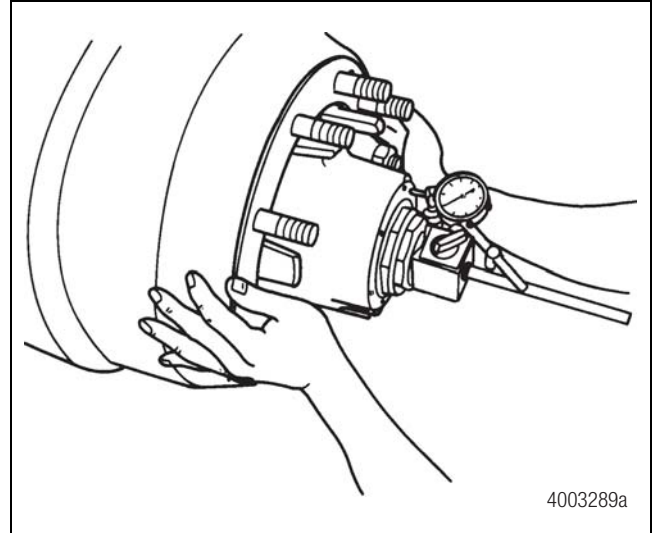

Figure 10.8
- B. Slightly rotate the wheel end in both directions while pushing inward until the dial indicator does not change. Set the dial indicator to ZERO. Figure 10.8.